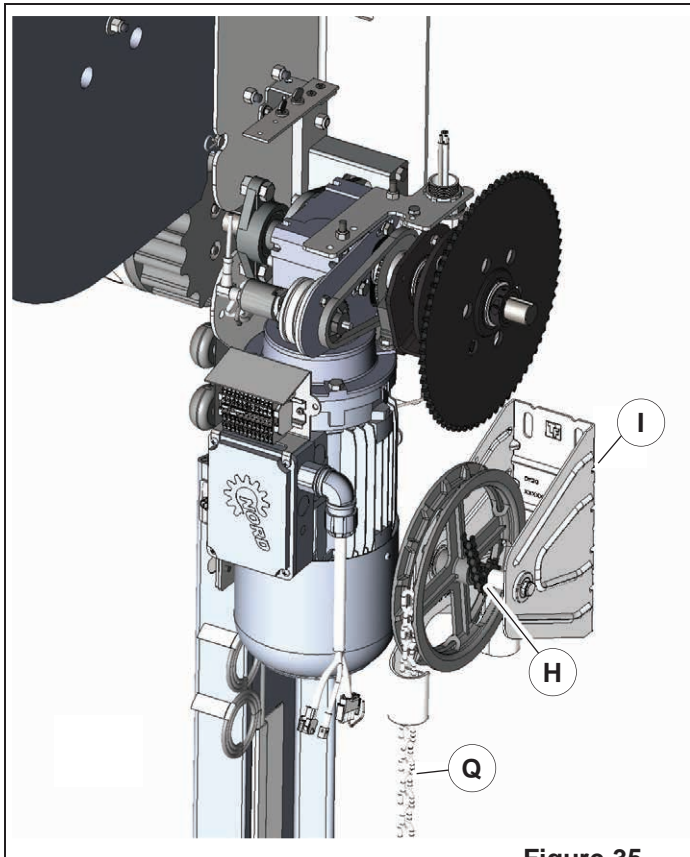

Figure 35
4. Install engagement arm bracket (D) with limit switch toward inside.
5. Install the two 1/4in x 1/2in [M6 x 13mm] bolts and 1/4in [M6] lock washers thru the engagement arm on the top and side to hold the bracket in place (**Figure 35**).